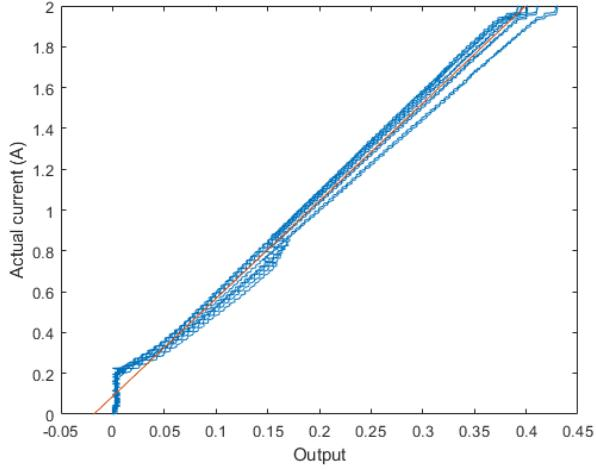

Figure A.2: The actual current versus the output of the current sensor.
flowing. The bandwidth of the currents sensor is also limited to 80 Hz and the current sensor does not measure currents below 0.2 A and is not linear below 0.3 A, see figure Figure A.2. After 0.3 A the current (I) can be calculated from the current sensor output (O) using the following formula: